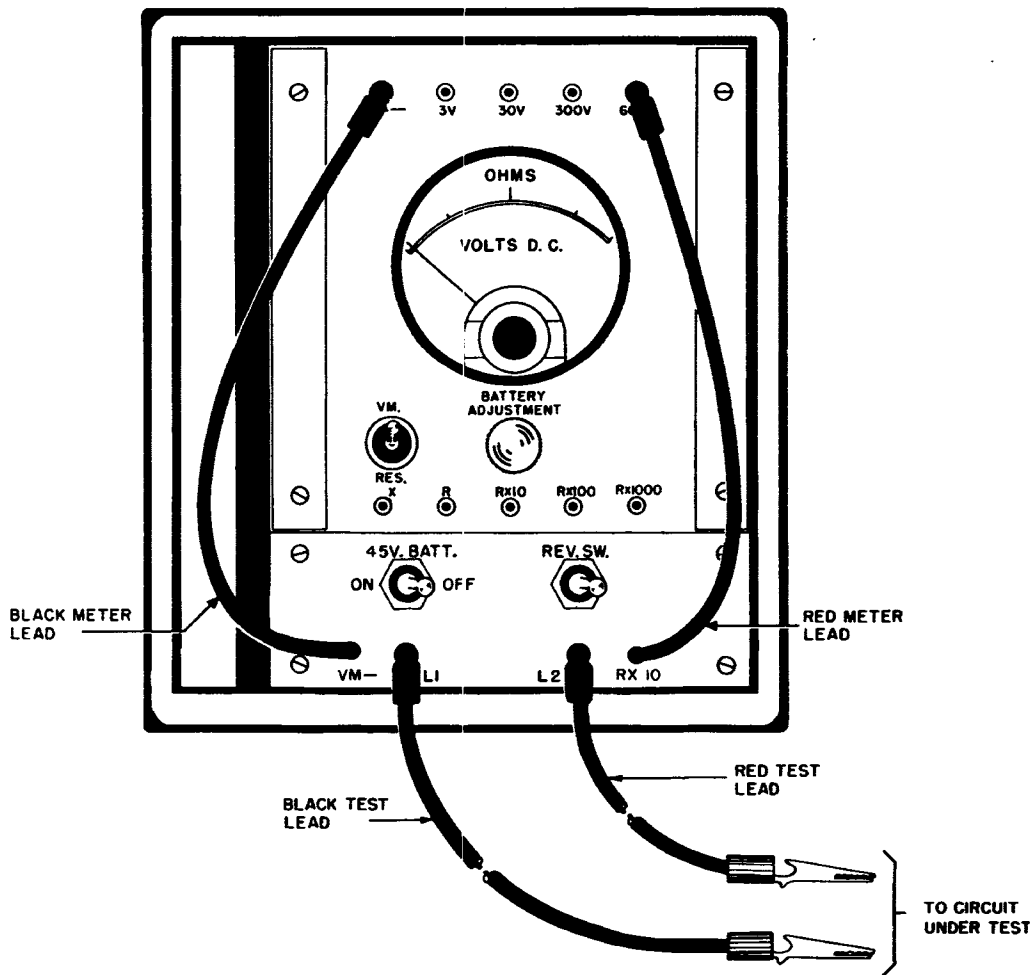

Figure 11. Test Set TS-26(\*)/TSM, arranged for measurements between 0 and 600 volts dc.
*a. Voltage Measurements* (figs. 11 through 14). Perform the following procedures before making voltage measurements.
- (1) Push the 45V. BATT. switch to the OFF position.
- (2) Push the VM.-RES. switch to the VM. position.
- (3) Place the pin of the black meter lead in the — (negative) jack.
(4) Place the pin of the red meter lead in one of the following jacks:
- (a) 600V jack for measurements between 0 and 600 volts (fig. 11).
- (4) If the 0- to 600-volt range is being used (fig. 11), read the VOLTS D. C. scale directly. In this case, the dc voltage is 200 volts.